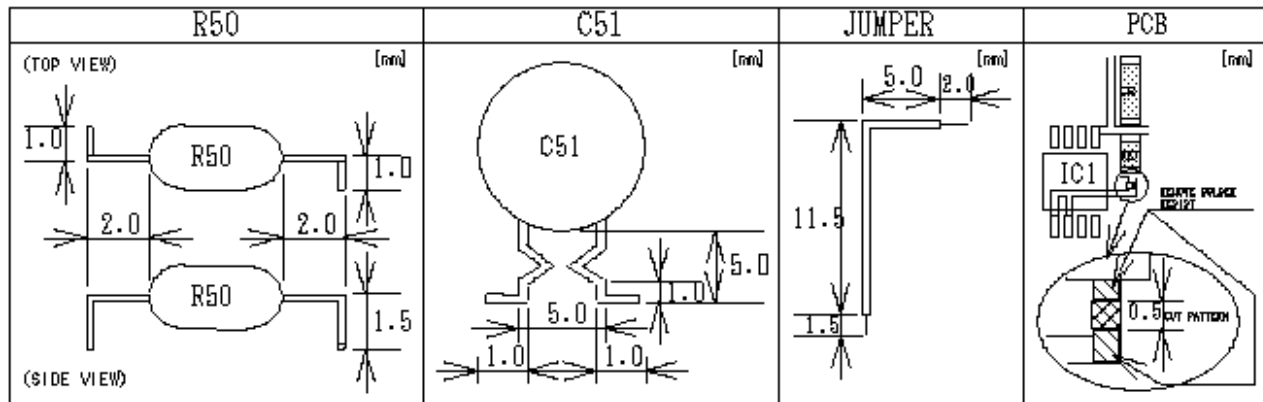
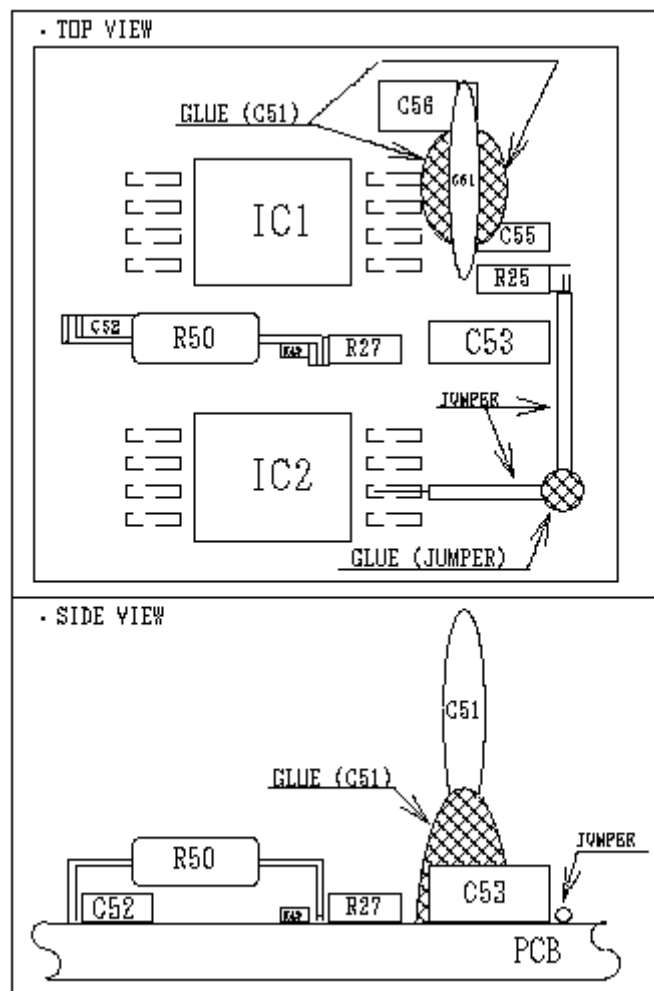

FIG.1
FIG. 2
7. Cut trace on PWB near IC1 and R27 (in the exact location as shown in Figure 1)
8. Add R49 (560 ohms) between pin 1 and 2 of IC1, and R27 (as shown in Figure 2)
9. Form the leads of R50 (as shown in JRC Figure 1), then add R50 (1K ohm) between R27 and the ground at C52 (as shown in Figure 2)
10. Install a jumper from the pin 6 pad for IC2, to R25 (as shown in Figure 2)
11. Using the silicone sealant, stake down the jumper wire (as shown in Figure 2)
12. Form the leads of C51 (as shown in Figure 1), then using the silicone sealant for mechanical stability, install one end of C51 (.01uF) to the C55 / IC1 pin 6 junction, and install the other end of C51 to the ground at C56 (as shown in JRC Figure 2).